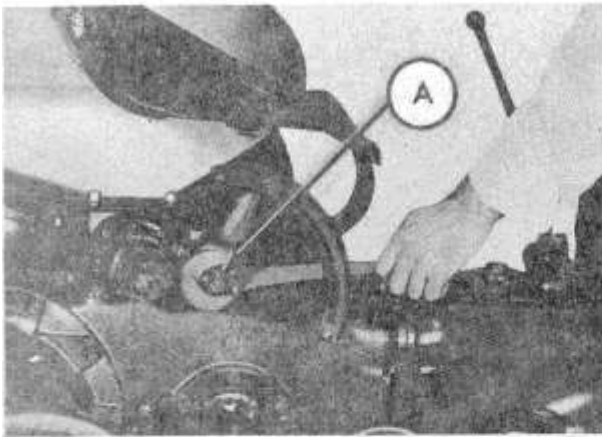

Fig. 4
Step 1—Tighten or loosen the nut on the end of the hydraulic lift control lever shaft (A-Figure 4). This nut should be adjusted so